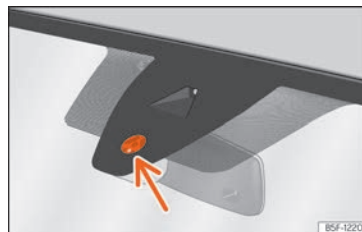

Fig. 109 Rain sensor sensitive surface
Possible causes of faults and mistaken readings on the sensitive surface »» Fig. 109 of the rain sensor include:
- Regularly clean the sensitive surface of the rain sensor »» Fig. 109 (arrow) and check for possible damage to the wiper blades.